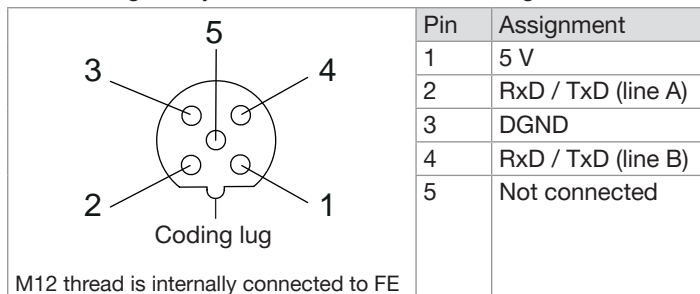

Fig. 22: Profibus MFM or Profibus MFC: Pin assignment, 5-pin M12 female connector (B coding)
- To wire the mating male connector, refer to the pin assignment of the M12 female connector in Fig. 22. Observe the instructions that are given by the manufacturer of the mating male connector.